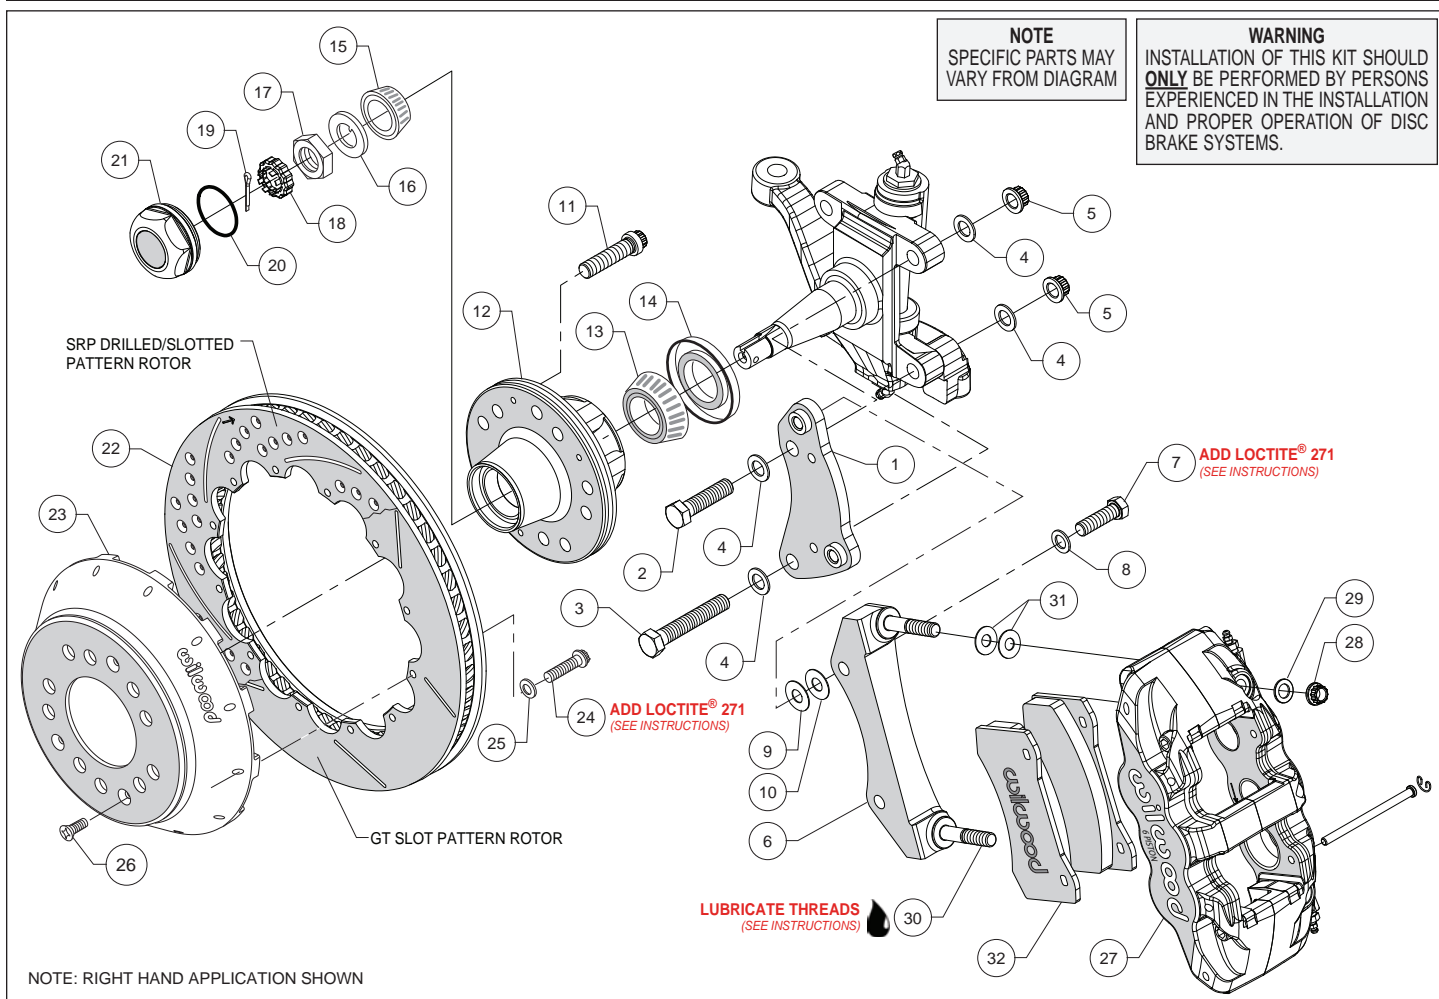
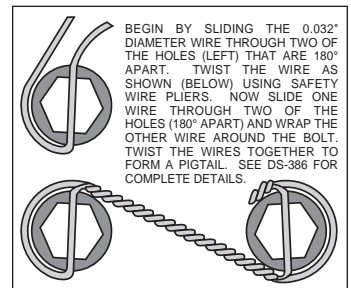
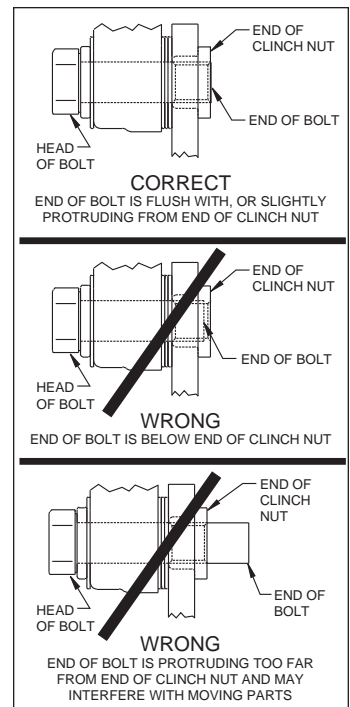

Figure 1. Typical Installation Configuration
Figure 3. Safety Wire Diagram
Figure 4. Clinch Nut Engagement Diagram
Assembly Instructions (numbers in parenthesis refer to the parts list, on the preceding page and Figure 1). **CAUTION:** All mounting bolts must fully engage clinch nuts. Be sure to check that all bolts are either flush or protruding through flanged side of clinch nut after shimming, Figure 4.
- Orient the spindle bracket (1) as shown in Figure 1 and Photo 1, and install using bolts (2 and 3), washers (4) and nuts (5). Temporarily tighten the mounting bolts. Ensure that the flanged heads of the clinch nuts in the bracket are facing outboard, Photo 1. **NOTE:** The bracket must fit squarely against the mount bosses on the upright. Inspect for interference from casting irregularities, machining ridges, burrs, etc. Torque lock nuts to 65 ft-lb.
- The caliper mount radial bracket (6) should initially be installed with clean, dry threads on the mounting bolts. Orient the bracket as shown in Figure 1 and Photo 2. Install onto the spindle bracket using bolts (7), and washers (8). Initially place one .030 thick shims (9) on each bolt between the radial and spindle brackets, Figure 1. Temporarily tighten the mounting bolts. Later, after the caliper alignment has been checked, the mount bolts will be secured using red *Loctite*® 271.
- Install wheel studs (11) into the hub (12), Photo 3. Torque to 77 ft-lb. **NOTE:** *There are two five lug patterns in the hub (5 x 4.50 and 5 x 4.75).* Ensure the correct hub stud pattern is being used to fit the wheel application.
- Pack the large inner bearing cone (13) with high temperature disc brake bearing grease (available from your local auto parts store) and install into the backside of the hub (12), Photo 4.
- Install the grease seal (14) by pressing into the backside of the hub (12), flush with the end of the hub, Photo 5.
- Pack the small outer bearing cone (15) with high temperature disc brake bearing grease and install into the front side of the hub (12), Photo 6. Slide the hub assembly onto the spindle. Secure using spindle washer (16) and spindle nut (17). Adjust bearings per OEM specifications. Install spindle nut retainer (18) and cotter pin (19), Photo 7.
- Screw dust cap (21) into hub (12), Photo 8. Friction created by the o-ring (20) on the dust cap keeps it from unscrewing. **NOTE:** *The O.D. of the existing OEM spindle washer may be larger than the I.D. of the dust cap not allowing it to seat against the hub face. Therefore, use the spindle washer (16) supplied with the kit instead of the OEM washer.*
- Orient the rotor (22) and the hat (23) as shown in Figure 1 and Photo 9. Attach rotor to hat using bolts (24) and washers (25). Using an alternating sequence, apply red *Loctite*[®] 271 to the threads, and torque to 155 **in-lbs**. For an added measure of security, the bolts may be safety wired using standard 0.032 inch diameter stainless steel safety wire as shown in Figure 3. Refer to Wilwood's data sheet DS-386 (available at www.wilwood.com/Pdf/DataSheets/ds386.pdf) for complete safety wire installation instructions.
- Slide the hat/rotor assembly (23/22) onto the hub (12) taking care to align the small countersunk holes in the hat with the small threaded holes in the hub, Photo 10. **NOTE:** *The hat must fit flush against the hub face or excessive rotor run out may result.* Install three flat head screws (26) through the small holes in the hat, and torque to 85 **in-lb**.
- **NOTE:** *This kit contains distinct right and left hand calipers that must be mounted in a specific direction, as described below.* Lubricate the caliper mounting studs (30) with lightweight oil. Initially place two .030" thick shims (31) on each stud between the caliper and the bracket, as shown in Figure 1 and Photo 11. Mount the caliper (27) onto the bracket (6) using lock nuts (28) and washers (29), Figure 1. Ensure that the caliper is mounted so the largest pistons are at the rotor exit end of the caliper, in relation to the direction of rotor rotation. Temporarily tighten the lock nuts and view the rotor through the top opening of the caliper. The rotor should be centered in the caliper, Photo 12. If not, adjust by adding or subtracting shims (9 and/or 10) between the spindle bracket (1) and the caliper mount bracket (6). Always
- Remove the two pad retaining pins from the caliper (27) by carefully popping out the pin retaining clips and sliding out the pins. Insert the brake pads (32) into the caliper from the bottom, Figure 1 and Photo 13. With the friction material facing the rotor, secure the brake pads in place with the pad retaining pins and clips, Photo 14. Reinstall the caliper onto the caliper mounting bracket and temporarily tighten the lock nuts (28). Check that the top of the brake pad is flush with the outside diameter of the rotor, Photo 15. If not, adjust by adding or subtracting shims (31) between the caliper and the bracket. After the caliper pad height is set, torque the caliper lock nuts (28) to 47 ft-lb.